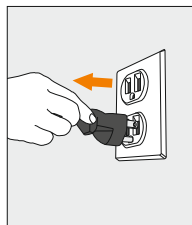

Figure 14
- 1. Unplug and approach the cooler from the front (Figure 14).